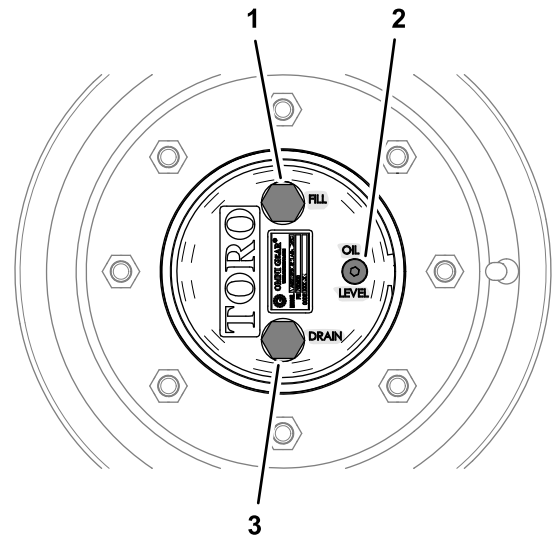

Figure 96
1. With the machine on a level surface, position a wheel so that the fill plug is at the highest (12 o'clock) position and the drain plug is at the lowest (6 o'clock) position (Figure 96).
1. With the machine on a level surface, position a wheel so that the fill plug is at the highest (12 o'clock) position and the drain plug is at the lowest (6 o'clock) position; refer to Figure 96 in Checking the Planetary-Gear-Drive Lubricant \(page 69\).